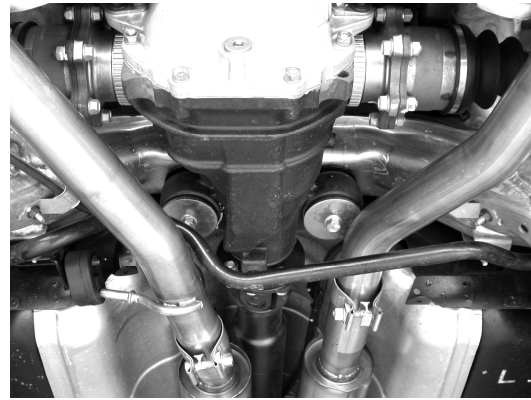

Figure 9
4. Place a clamp over the expanded end of both left and right intermediate pipes and set them into position as shown in figure 9 making sure to install the hangers into the rubber brackets. **DO NOT** tighten the clamps.